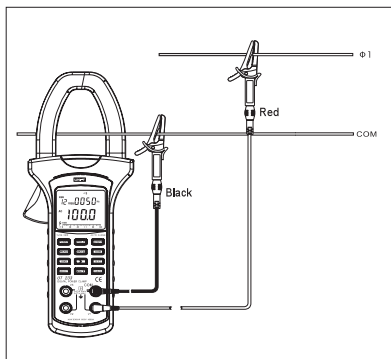

Figure 6
- **When measuring single phase 2 wires, connect the Meter as figure 6**